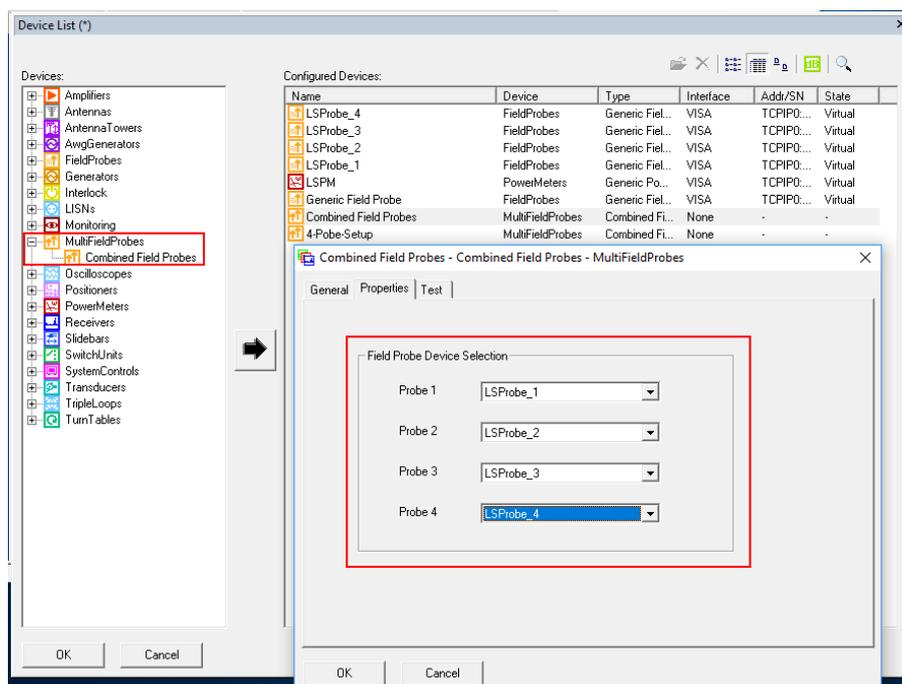

Figure 5: Combined Field Probe device added
- **Combined Field Probes** device out of **MultiFieldProbes** to Configured Devices List added, see Figure 5